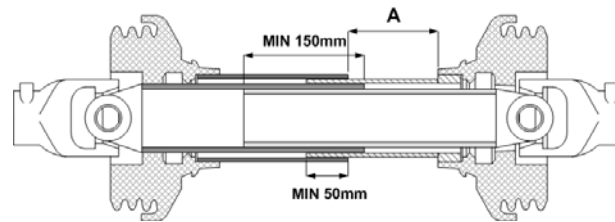
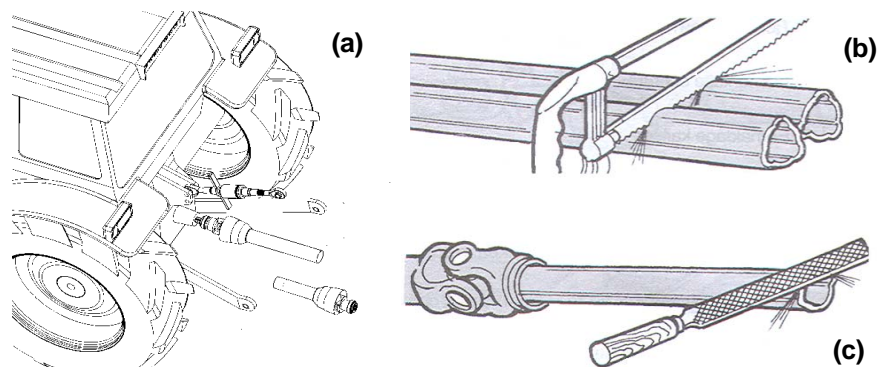

Figure 4.2
Figure 4.3
IMPORTANT: The recommended minimum engagement of the PTO is 150mm in the working position. This measurement must be taken into account when shortening the PTO shaft. (See Figure 4.3)
- 4.6.1.2** Pre-assemble the PTO shaft and check that the drive tube overlap is not less than 150mm, see Figure 4.2 and Figure 4.3 a.
- 4.6.1.3** Check that the minimum overlap of the shaft guards is not less than 50mm, see Figure 4.2.
- 4.6.1.4** If the overall PTO length is likely to reduce during operation then ensure that at its minimum there is at least 40mm movement left between the guards, see dimension 'A' in Figure 4.2.
- 4.6.1.5** If the PTO needs to be shortened, cut both tubes as both halves must be shortened equally, see Figure 4.3 b.